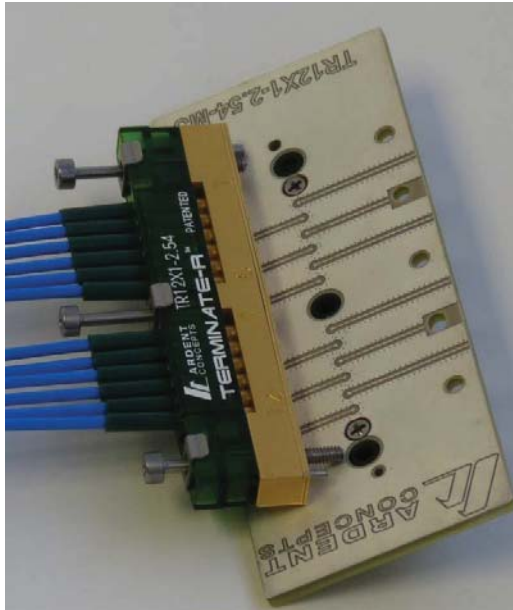

Figure 5: Aligning the TR Assembly
- Locate the alignment dowels on the bottom of the TR Assembly and reference them for alignment (See Figure 5).